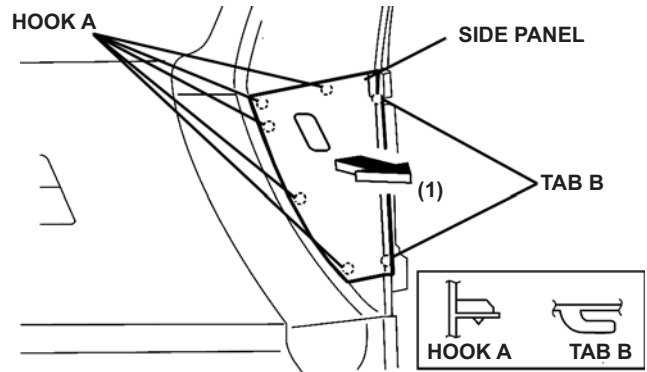

FIGURE 19
- 1.) PULL THE SIDE PANEL IN THE DIRECTION OF THE ARROW (1) AND THEN REMOVE THE HOOKS A. (SEE FIGURE 19)